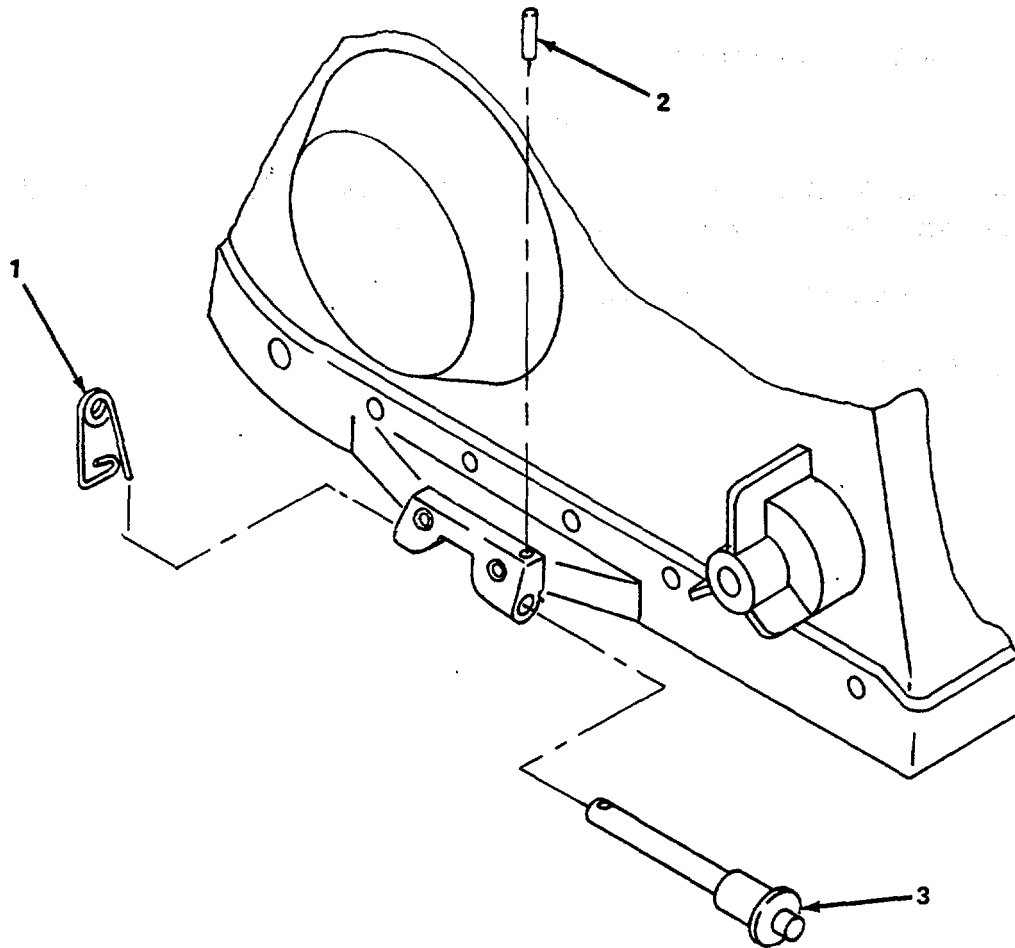

Figure 4-21. Quick Release Pin, Replace.
(1) *Replace quick release pin.* (figure 4-21)